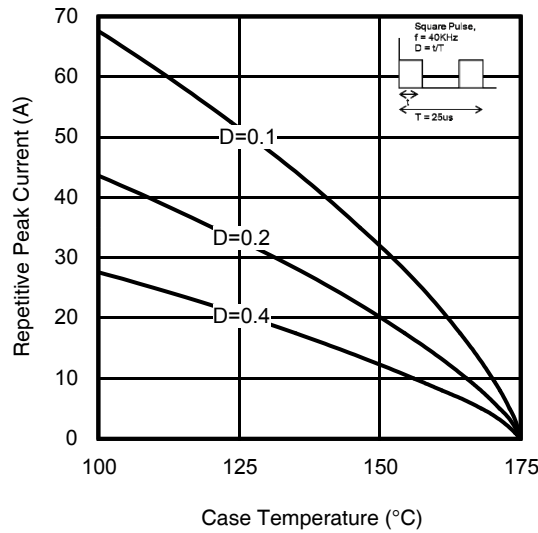

Fig. 26. Maximum Diode Repetitive Forward Peak Current vs. Case Temperature
- ① V_{CC} = 80% (V_{CES}), V_{GE} = 20V, R_G = 10Ω, L=210μH.
- ② R_θ is measured at T_J of approximately 90°C.
- ③ Refer to AN-1086 for guidelines for measuring V_{(BR)CES} safely.
- ④ Pulse width limited by max. junction temperature.
- ⑤ Values influenced by parasitic L and C in measurement.
- ⑥ f_{sw} = 40KHz, refer to figure 26.